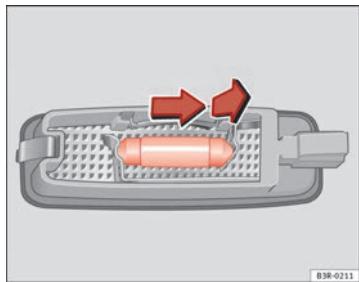

Fig. 225 Removing sun visor light
- Remove the bulb, moving it in the direction of the arrow and outwards ⇒ fig. 225.